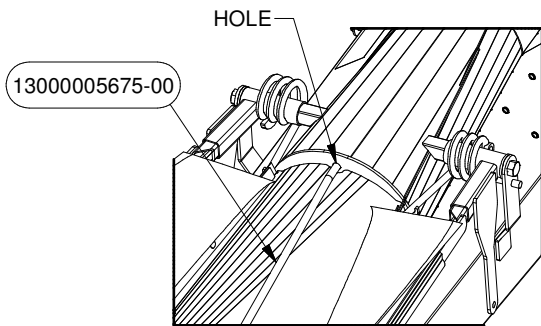

FIGURE 6
6. Insert the end of the Belt Depressor PN# 5675 into a hole in a flange as shown in Figure 6. Then attach it at the end of the Intake using 1/4" Hex Bolts, Washers and Nuts found in Bolt Bag PN# 6026 as shown in Detail G.